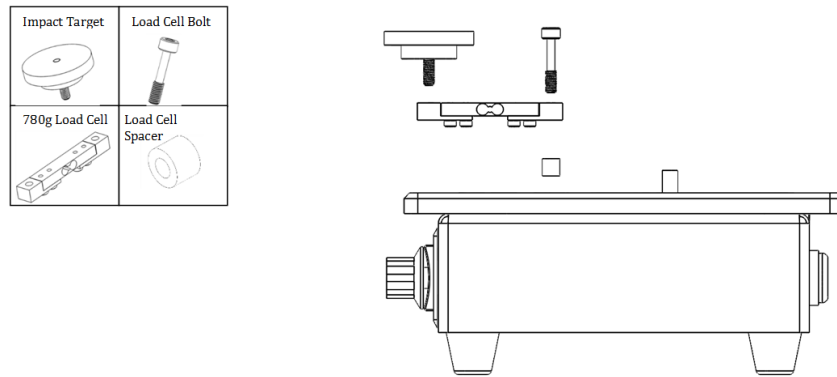

Figure 1: Placement of Load Cell with Impact Target
3. Attach the load cell to the baseplate using the $\frac{7}{8}$ " thumbscrew and load cell spacer ensuring the arrow is facing downward. Refer to Figure 1.